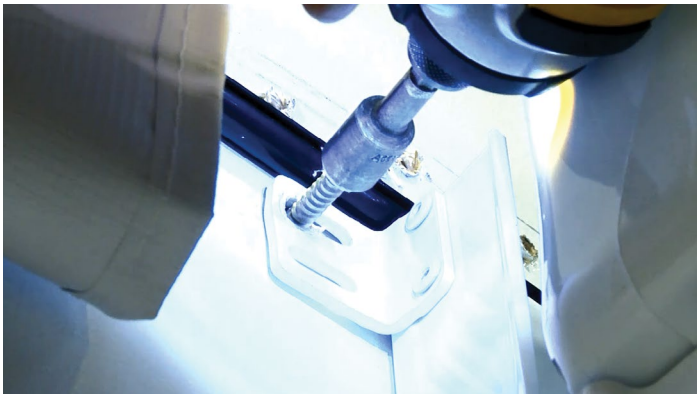

Fig.9
18. Secure the upper section of the drive mount arm to the unit with 2 of the provided #14 x 1 ¼" screws (**Fig.9**).